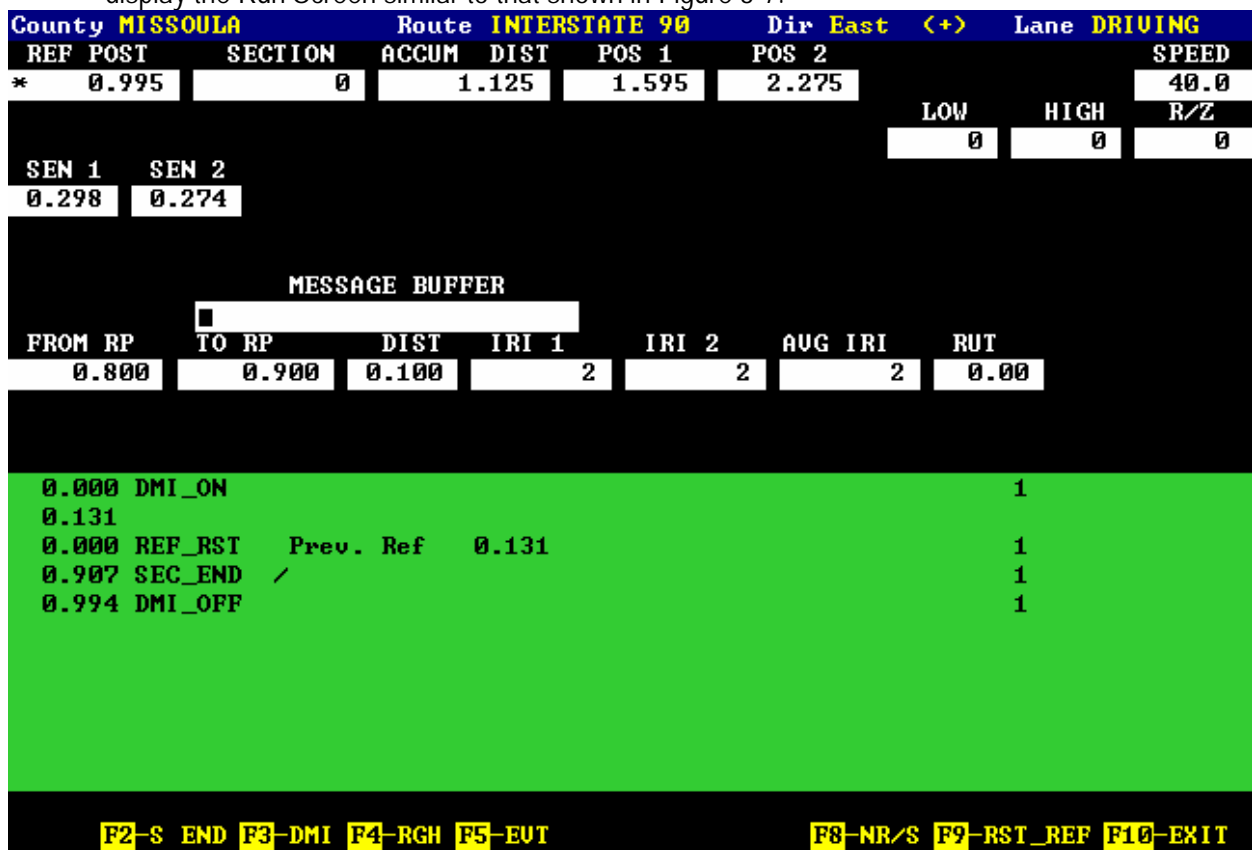

Figure 3-7. MDR Software Run Screen for Bounce Test.
5. In the Run Menu, highlight 'Go' and press 'Enter' key to begin the bounce test. The monitor will display the Run Screen similar to that shown in Figure 3-7.